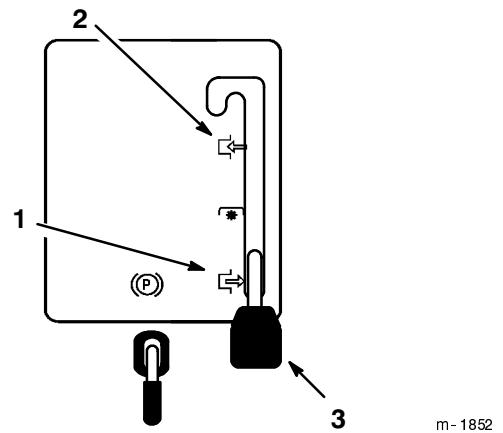

Figure 4
2. Move the PTO to Engaged (Fig. 4).
2. Move the PTO to Disengaged (Fig. 4).